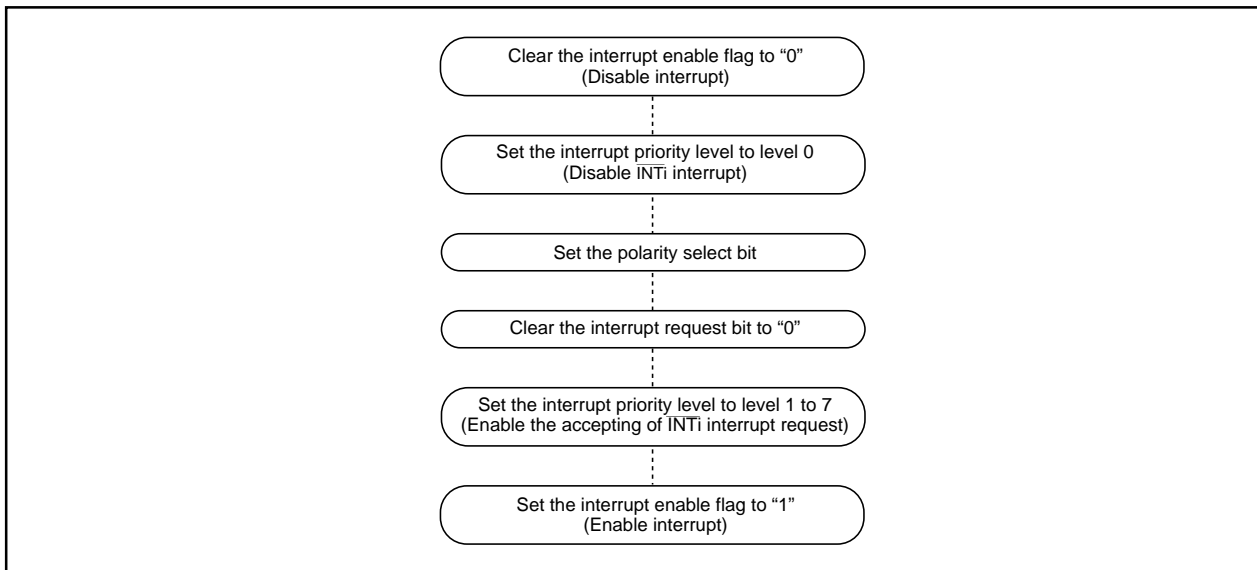

Figure 2.7.14 Switching condition of INT interrupt request
- When the polarity of the  $\overline{\text{INT0}}$  and  $\overline{\text{INT1}}$  pins is changed, the interrupt request bit is sometimes set to "1". After changing the polarity, set the interrupt request bit to "0". Figure 2.7.14 shows the procedure for changing the  $\overline{\text{INT}}$  interrupt generate factor.